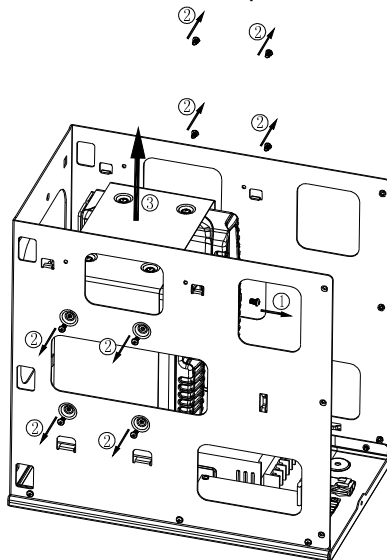

Figure 6
1. Remove the screw (M4.0X6.0) □ that secure the thermistor sensor using a screwdriver, shown as Figure 6.
2. Use a screwdriver to remove the eight screws (M3.0X6.0) □ that secure the bracket of radio, shown as Figure 6.
3. Remove the bracket □ shown as Figure 6, and remove the 2 signal cables and 2 power cables of both radios.